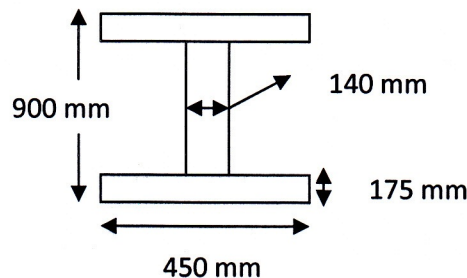

Figure: 1
1. (a) Make a preliminary design for section of a prestressed-concrete beam to resist a total moment of 420 KN-m including girder self weight moment 115 kN-m. Assume a trial depth of the section is $42\sqrt{M_T}$ in mm (where M_T is in kN-m) . The effective prestress for steel is 750 MPa, and allowable stress for concrete under working load is 12 MPa. (8)
- (b) A symmetric I-shaped beam is prestressed with $A_{ps}=2189 \text{ mm}^2$ as prestressing steel with an effective stress f_{se} of 1100 MPa. The c.g.s. of the strands is 115 mm above from the bottom of the beam. Determine the ultimate moment of the section in **Figure: 1** using strain compatibility method. (17)
2. (a) Show the stress distributions in a prestressed concrete beam section for different locations of compressive force (C) according to elastic theory. (10)
- (b) Fourteen steel wires of 9 mm diameter with anchorages are used for prestressing of a 15m pretensioned beam. The beam has symmetrical I-section shown in **Figure: 1**. Determine the position for the c.g.s. line. [Given: $f'_o=860\text{MPa}$, $f_{se}= 750 \text{ MPa}$, $f'_b= 3 \text{ MPa}$, $f'_t= 3 \text{ MPa}$, $M_G= 75 \text{ kN-m}$, $M_T=270 \text{ kN-m}$ at midspan]. (15)